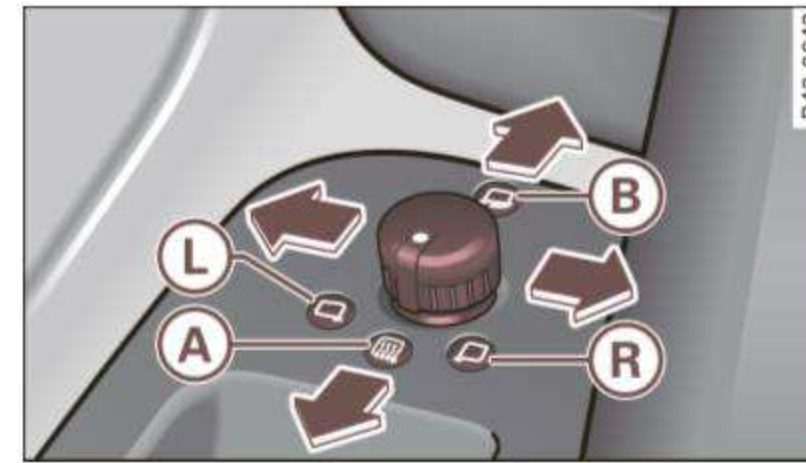

Fig. 54 Forward section of driver's armrest: power mirror controls
- Turn the adjusting knob to position **L** (driver's side) or in position **R** (passenger side) ⇒ fig. 54.